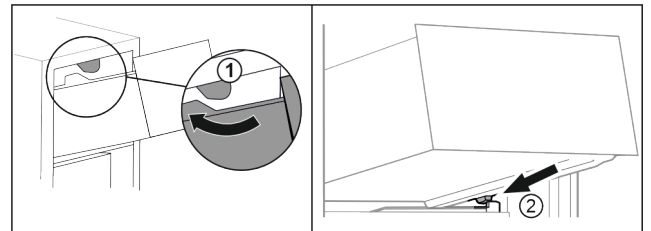

Fig. 74
- Guide drawer around the upper stoppers. Fig. 74 (1)
- Place drawer at an angle behind the lower stoppers onto moulded rib. Fig. 74 (2)